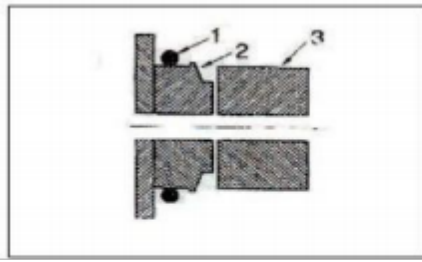

Fig 4.46
3. Remove the old 0-ring and install the new 0-ring 1 (Figure 4-46) on the bushing 2. Make sure that the 0-ring groove on the connecting rod 3 and the bucket bushing have been cleaned.